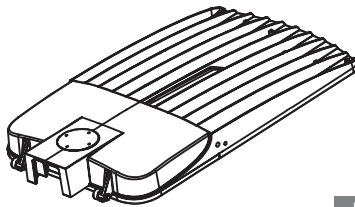

Figure 1
1. Open Fixture Cover (Fig. 1).